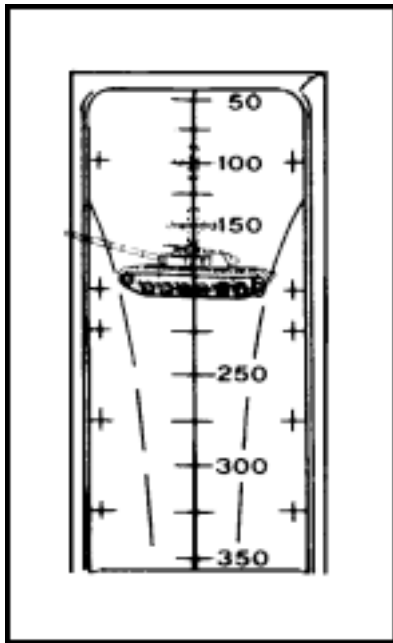

Figure 4-3. Sight alignment for the M72-series LAW.
b. **Sight Alignment.** Align the sights correctly with the target. To do this for the M72-series LAW, position the rear sight so that your eye is near and in line with the peephole in the rear sight. Look through the peephole at the front sight reticle and place the range line that corresponds to the target's range on the target (Figure 4-3). To do this for the AT4, position the rear sight so that the white